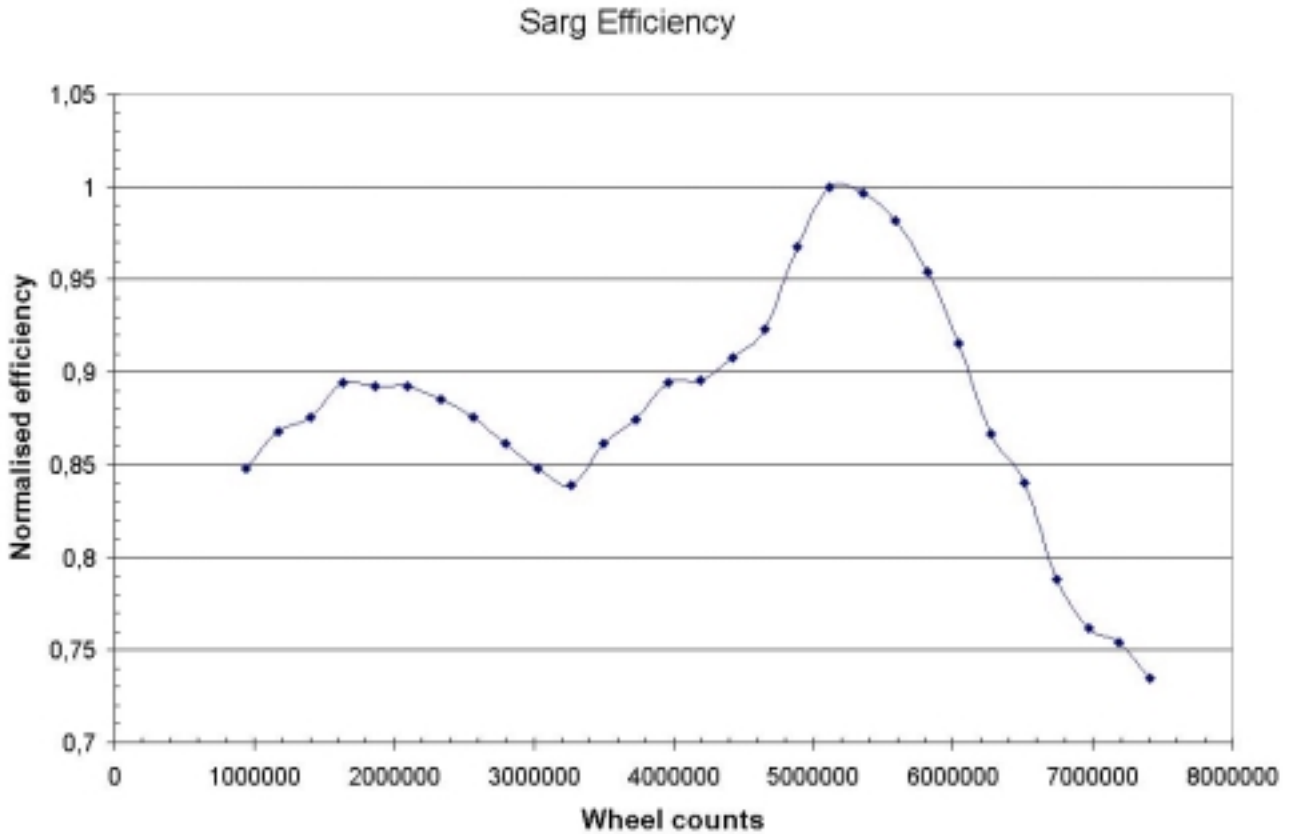

Figure 3 : Sarg efficiency versus wheel position
- Max Efficiency set the offset angle at maximum efficiency position (see Figure 3)
The maximum efficiency is at 5000000 increments from home position (Figure 3). For this reason if you need the maximum efficiency, and aren't interested in the orientation of the slit, you may choose the fixed position of the wheel and guide with the auto-guide.